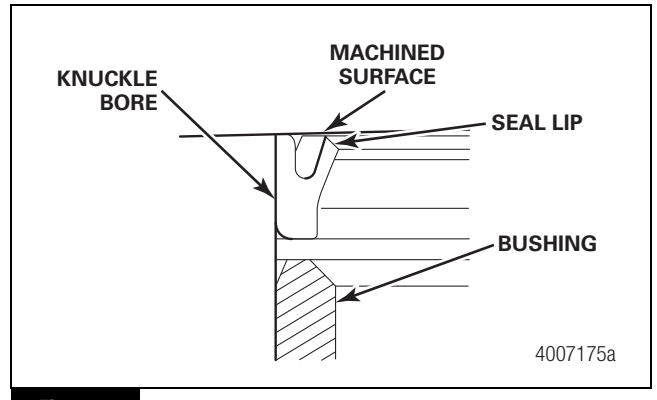
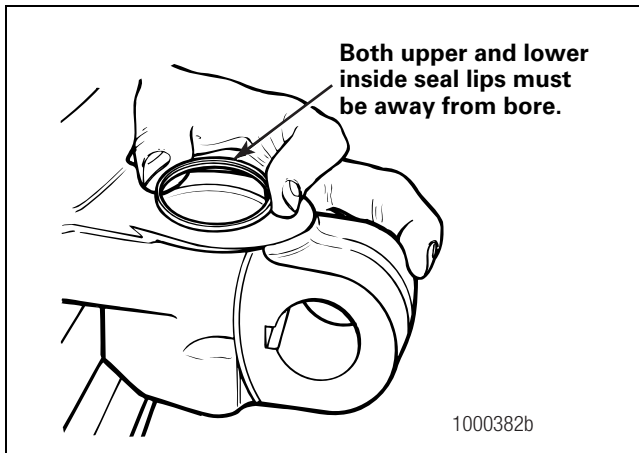

Figure 9
Figure 8
4. Install the upper and lower grease seals, so that the two seal lips are toward each other. Do not install the seals incorrectly, or grease will not purge from the knuckle during lubrication. After installing the bushings, the seals must be even with the machined surface of each knuckle bore. Figure 8 and Figure 9.